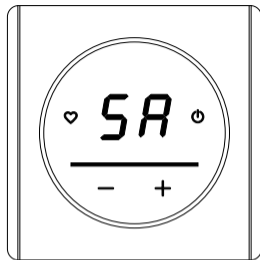

Fig. 10
6. Activate the EZ Config mode on the temperature controller by pressing and holding the “” and “+” buttons on the temperature for 3 seconds. The symbols appear on the display screen “SC”, confirming the activation of this mode and the button “” will start flashing red at intervals of 0.5 seconds (Fig. 10).